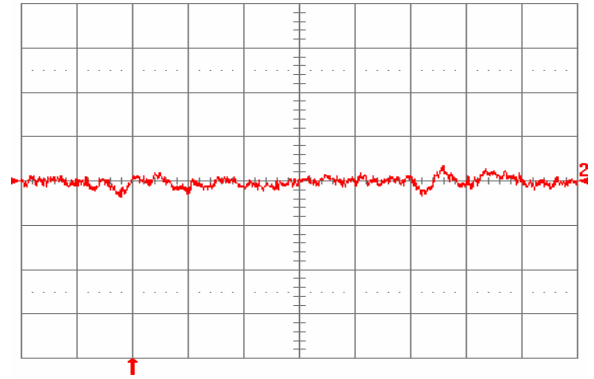

**Fig. 1.2V.14:** Test Setup for measuring input reflected ripple currents,  $i_c$  and  $i_s$ .
**Fig. 1.2V.1:** Available load current vs. ambient air temperature and airflow rates for SQ48T15012 converter with D height pins mounted vertically with  $V_{in} = 48\text{ V}$ , air flowing from pin 3 to pin 1, and maximum FET temperature  $\leq 120^\circ\text{C}$ .
**Fig. 1.2V.2:** Available load current vs. ambient air temperature and airflow rates for SQ48T15012 converter with D height pins mounted horizontally with  $V_{in} = 48\text{ V}$ , air flowing from pin 3 to pin 1, and maximum FET temperature  $\leq 120^\circ\text{C}$ .
**Fig. 1.2V.3:** Available load current vs. ambient air temperature and airflow rates for SQ48S15012 converter mounted vertically with  $V_{in} = 48$  V, air flowing from pin 3 to pin 1, and maximum FET temperature  $\leq 120$  °C.
**Fig. 1.2V.4:** Available load current vs. ambient air temperature and airflow rates for SQ48S15012 converter mounted horizontally with  $V_{in} = 48$  V, air flowing from pin 3 to pin 1, and maximum FET temperature  $\leq 120$  °C.
**Fig. 1.2V.5:** Efficiency vs. load current and input voltage for SQ48T/S15012 converter mounted vertically with air flowing from pin 3 to pin 1 at a rate of 300 LFM (1.5 m/s) and  $T_a = 25$  °C.
**Fig. 1.2V.6:** Efficiency vs. load current and ambient temperature for SQ48T/S15012 converter mounted vertically with  $V_{in} = 48$  V and air flowing from pin 3 to pin 1 at a rate of 200 LFM (1.0 m/s).
**Fig. 1.2V.7:** Power dissipation vs. load current and input voltage for SQ48T/S15012 converter mounted vertically with air flowing from pin 3 to pin 1 at a rate of 300 LFM (1.5 m/s) and  $T_a = 25^\circ\text{C}$ .
**Fig. 1.2V.8:** Power dissipation vs. load current and ambient temperature for SQ48T/S15012 converter mounted vertically with  $V_{in} = 48\text{ V}$  and air flowing from pin 3 to pin 1 at a rate of 200 LFM (1.0 m/s).
**Fig. 1.2V.9:** Turn-on transient at full rated load current (resistive) with no output capacitor at  $V_{in} = 48\text{ V}$ , triggered via ON/OFF pin. Top trace: ON/OFF signal (5 V/div.). Bottom trace: output voltage (0.5 V/div.). Time scale: 2 ms/div.
**Fig. 1.2V.10:** Turn-on transient at full rated load current (resistive) plus 10,000  $\mu\text{F}$  at  $V_{in} = 48\text{ V}$ , triggered via ON/OFF pin. Top trace: ON/OFF signal (5 V/div.). Bottom trace: output voltage (0.5 V/div.). Time scale: 2 ms/div.
**Fig. 1.2V.11:** Output voltage response to load current step-change (3.75 A – 7.5 A – 3.75 A) at  $V_{in} = 48$  V. Top trace: output voltage (100 mV/div.). Bottom trace: load current (5 A/div.). Current slew rate: 0.1 A/ $\mu$ s.  $C_o = 1$   $\mu$ F ceramic. Time scale: 0.2 ms/div.
**Fig. 1.2V.12:** Output voltage response to load current step-change (3.75 A – 7.5 A – 3.75 A) at  $V_{in} = 48$  V. Top trace: output voltage (100 mV/div.). Bottom trace: load current (5 A/div.). Current slew rate: 5 A/ $\mu$ s.  $C_o = 450$   $\mu$ F tantalum + 1  $\mu$ F ceramic. Time scale: 0.2 ms/div.
**Fig. 1.2V.13:** Output voltage ripple (20 mV/div.) at full rated load current into a resistive load with  $C_o = 10$   $\mu$ F tantalum + 1  $\mu$ F ceramic and  $V_{in} = 48$  V. Time scale: 1  $\mu$ s/div.
**Fig. 1.2V.15:** Input reflected ripple current,  $i_c$  (100 mA/div.), measured at input terminals at full rated load current and  $V_{in} = 48$  V. Refer to Fig. 1.2V.14 for test setup. Time scale: 1  $\mu$ s/div.
**Fig. 1.2V.16:** Input reflected ripple current,  $i_s$  (10 mA/div.), measured through 10  $\mu$ H at the source at full rated load current and  $V_{in} = 48$  V. Refer to Fig. 1.2V.14 for test setup. Time scale: 1  $\mu$ s/div.
**Fig. 1.2V.17:** Output voltage vs. load current showing current limit point and converter shutdown point. Input voltage has almost no effect on current limit characteristic.
**Fig. 1.2V.18:** Load current (top trace, 20 A/div., 20 ms/div.) into a 10 m $\Omega$  short circuit during restart, at  $V_{in} = 48$  V. Bottom trace (20 A/div., 1 ms/div.) is an expansion of the on-time portion of the top trace.